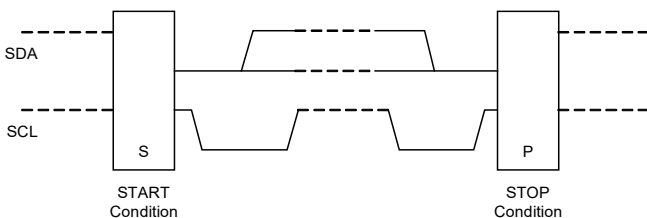

Figure 15. I²C Start and Stop Conditions
The SGM37604A is configured via an I²C interface. START (S) and STOP (P) conditions classify the beginning and the end of the I²C session (see Figure 15). A START condition is defined as SDA transitioning from high to low while SCL is high. A STOP condition is defined as SDA transitioning from low to high while SCL is high. The I²C master always generates the START and STOP conditions. The I²C bus is considered busy after a START condition and free after a STOP condition. During the data transmission the I²C master can generate repeated START conditions. A START and a repeated START conditions are equivalent function-wise. The data on SDA must be stable during the high period of the clock signal (SCL). In other words, the state of SDA can only be changed when SCL is low.